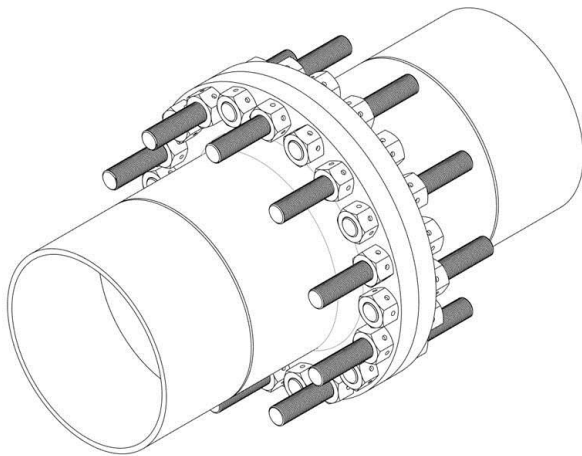

Figure 5a:
4.1.3.1. BOLT INSTALLATION FOR 100% TENSIONER COVERAGE (Figure 5a)
Using this method of assembly all bolts are tensioned in one operation. In order to achieve this, the bolts must be assembled with the thread protrusions staggered over each side of the flanged joint as illustrated in Figure 5a.